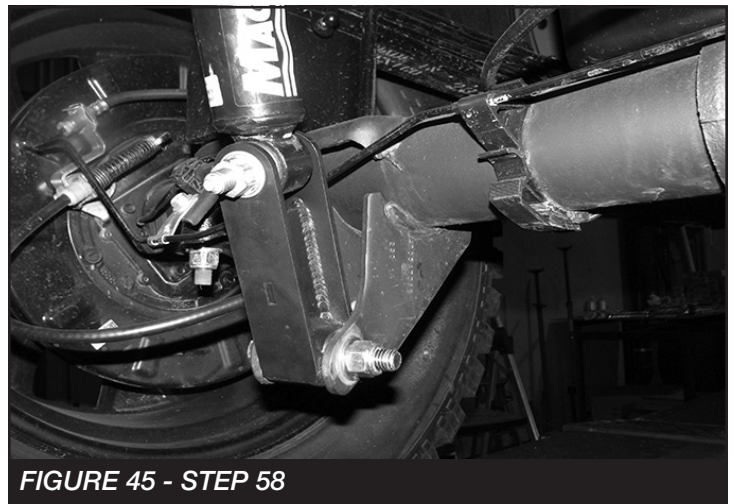

FIGURE 45 - STEP 58
58. Reinstall the shocks onto the lower axle mounts using FT20673BK Rear Shock Bracket Torque to 100 ft-lbs. **SEE FIGURE 45**